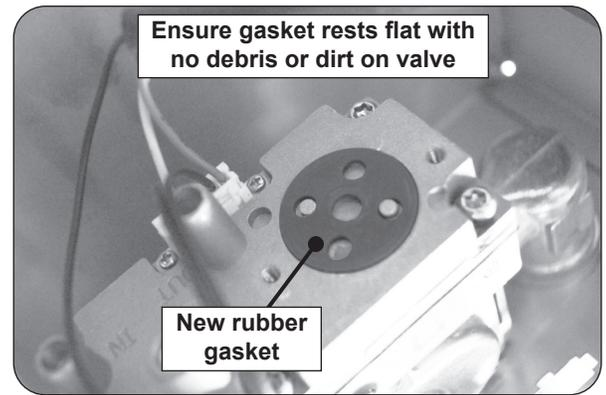

Fig. 5-1 Insert new rubber gasket
9. Insert the new rubber gasket into the valve. It must rest flat and be aligned over the two small pegs on the valve (see Fig. 5-1).